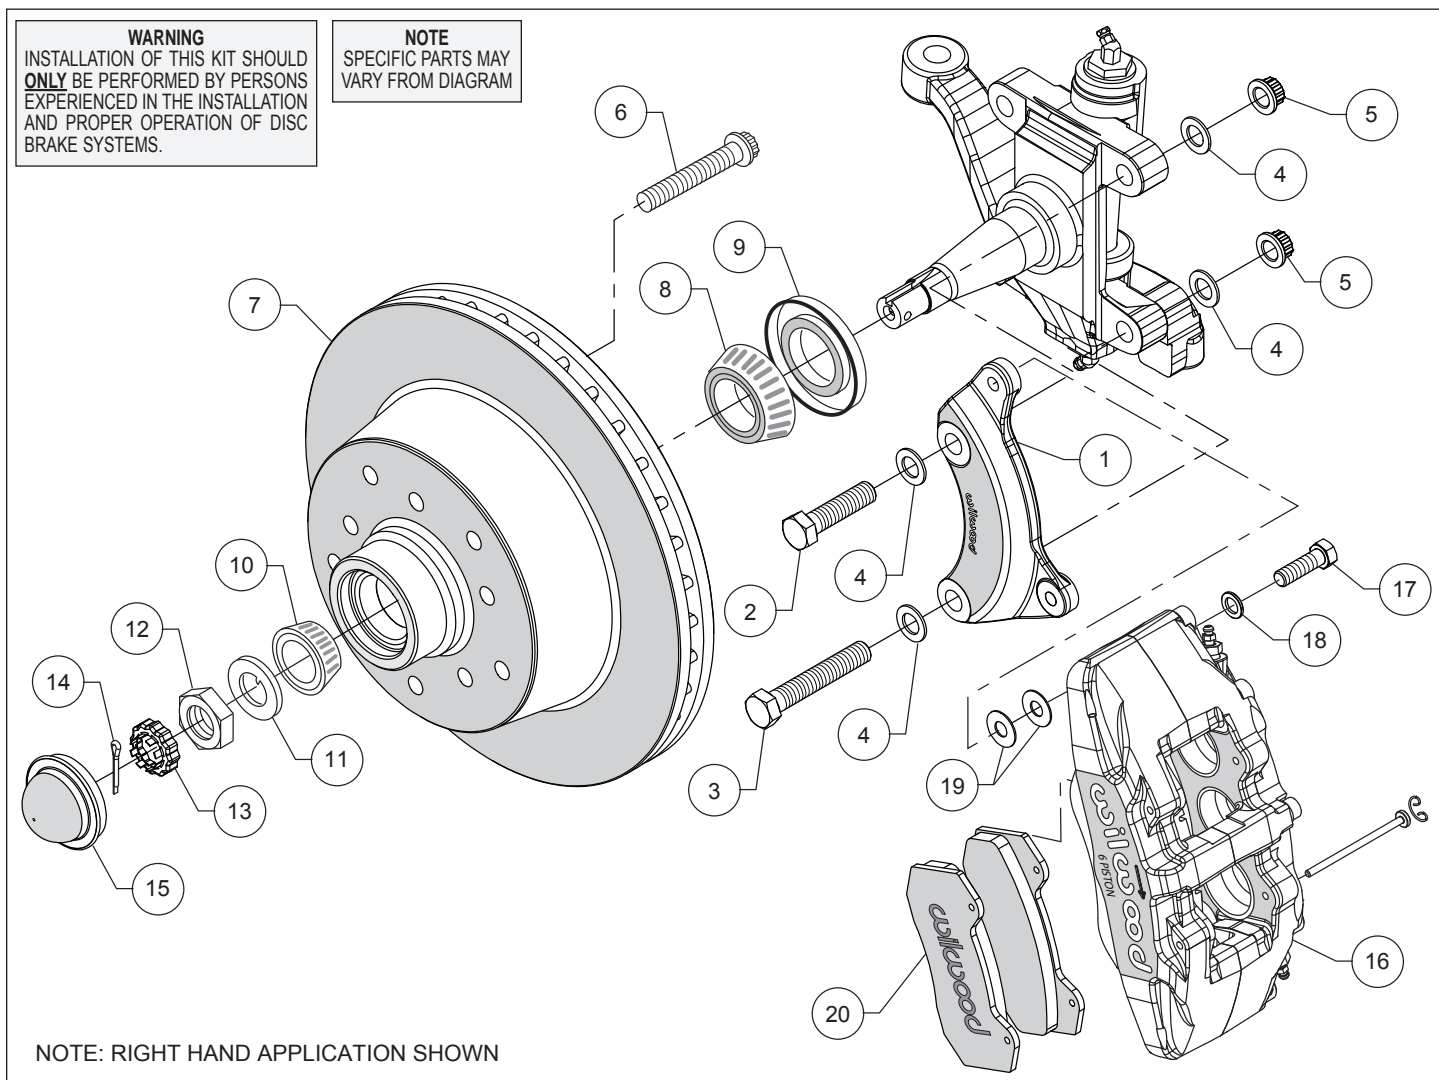

Figure 1. Typical Installation Configuration
Assembly Instructions (numbers in parenthesis refer to the parts list, on the preceding page and Figure 1):
- Orient the caliper mount bracket (1) as shown in Figure 1 and Photo 1, and install using bolts (2 and 3), washers (4) and lock nuts (5). Temporarily tighten the mounting bolts. **NOTE:** *The bracket must fit squarely against the mount bosses on the upright.* Inspect for interference from casting irregularities, machining ridges, burrs, etc. Torque lock nuts to 65 ft-lb.
- **NOTE:** *This kit contains distinct right and left hand calipers that must be mounted in a specific direction, as described below.* Mount the caliper (16) onto the caliper mounting bracket (1) using bolts (17) and washers (18), as shown in Figure 1. Initially place two .035" thick shims (19) on each bolt between the caliper and the bracket, Photo 7. Ensure that the caliper is mounted so the largest pistons are at the rotor exit end of the caliper, in relation to the direction of rotor rotation. Temporarily tighten the mounting bolts and view the rotor (7) through the top opening of the caliper. The rotor should be centered in the caliper, Photo 8. If not, adjust by adding or subtracting shims (19) between the bracket and the caliper. Always use the same amount of shims on each of the two mounting bolts. If necessary place spare shims between washer (18) and caliper mounting ear to achieve the proper clinch nut engagement. Once the caliper alignment and clinch nut engagement are correct, remove the caliper.
- Remove the two pad retaining pins from the caliper (16) by carefully popping out the pin retaining clips and sliding out the pins. Insert the brake pads (20) into the caliper from the bottom, Figure 1 and Photo 9, with the friction material facing the rotor. Secure the brake pads in place with the pad retaining pins and clips, Photo 10. Reinstall the caliper onto the caliper mounting bracket. Apply red *Loctite*® 271 to bolt threads (17), and torque to 40 ft-lb.